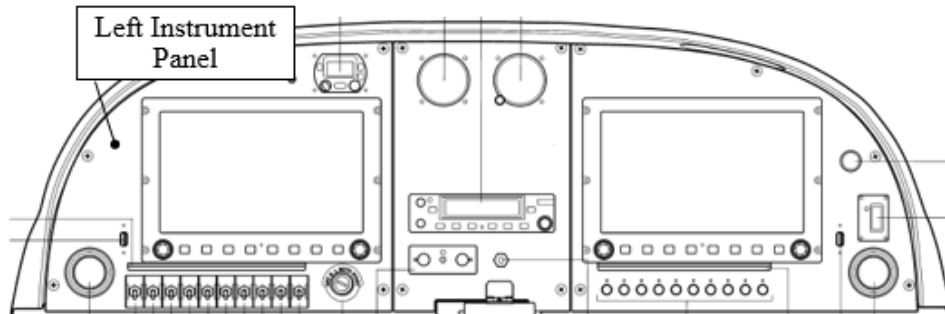

Figure 5 -Instrument panel
8. Dismount the left instrument panel with instruments (see Figure 5), put it on a clean soft pad. Do not remove and do not disconnect the instruments.